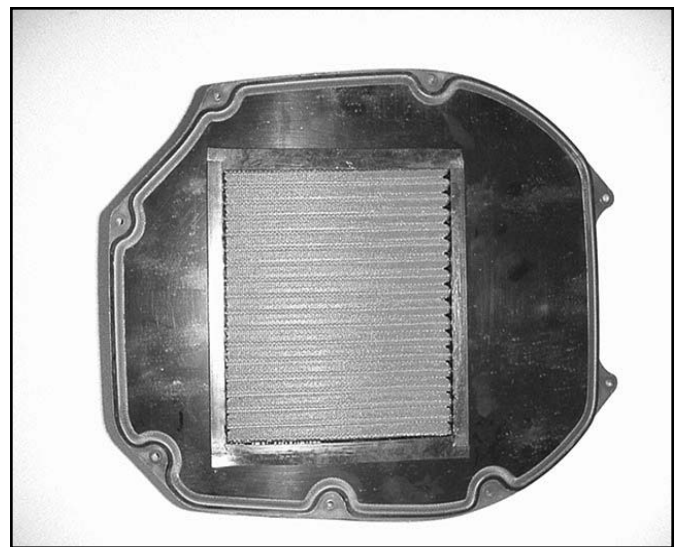

Fig. 2
- 7) Install the K&N Filtercharger® in the air box. (Fig. 2)